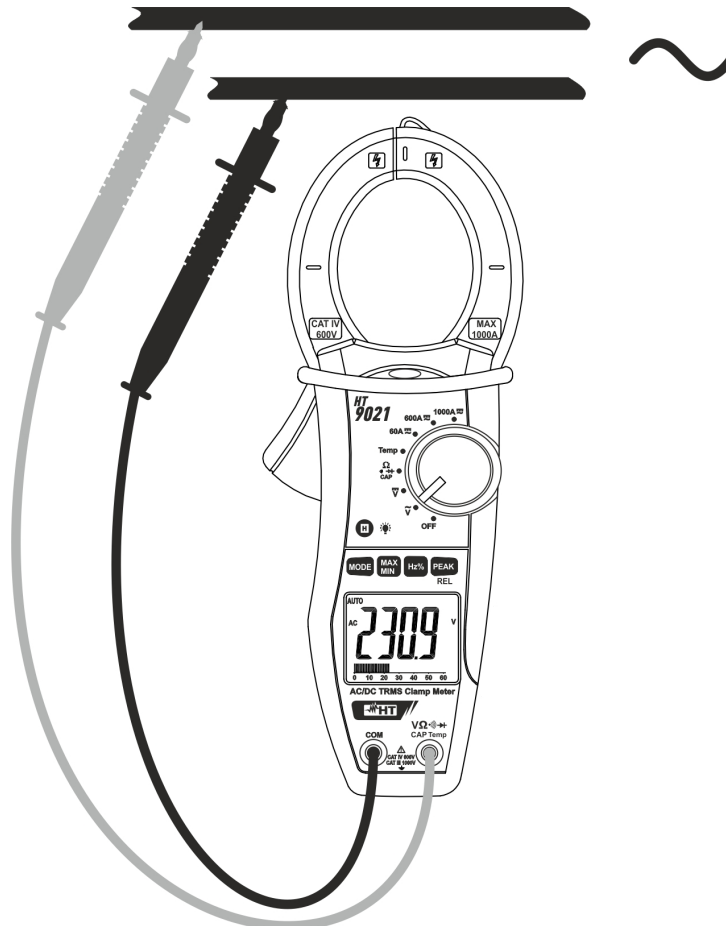

Fig. 3: Taking AC voltage measurements
3. Insert the red test lead plug into $V\Omega$ $\rightarrow$ CAP Temp jack and the black test lead plug into **COM** jack (Fig. 3)